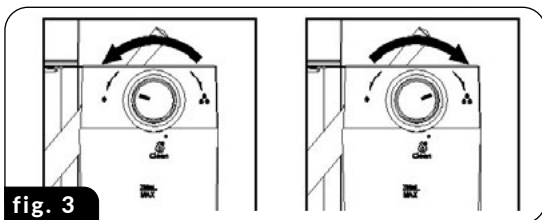

fig. 3
**CAUTION! Before preparing CAPPUCCINO, adjust the amount of frothed milk according to your preferences by turning the dosing knob (23) to the left for more foam or to the right for less foam (fig.3). You can also adjust the intensity of the foam during the frothing process.**
**CAUTION! Before preparing LATTE, adjust the amount of frothed milk according to your preferences by turning the dosing knob (23) to the left for more foam or to the right for less foam (fig.3). You can also adjust the intensity of the foam during the frothing process.**
1. Fit the selected filter (13) in the portafilter (10), fill it with coffee and fit the portafilter in the coffee maker.
2. Make sure there is the right amount of water in the water tank (15) and the right amount of milk in the milk tank (19).